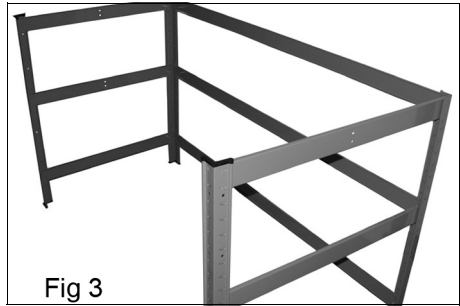

Fig 3
2. Join the two end assemblies together with the long beams (C) as in Fig 3.